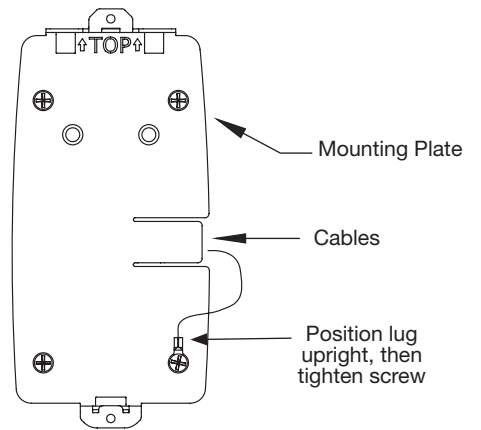

Fig. 12B
4. Insert other three corner screws and tighten, fastening the outside escutcheon to the door (Fig. 12B).